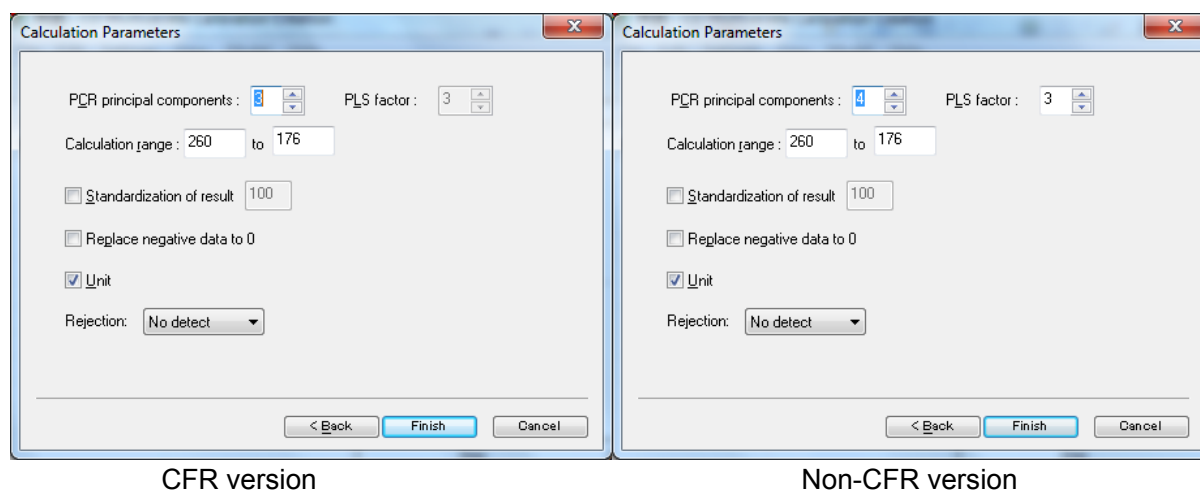

Figure 3.5 [Calculation Parameters] dialog box
- <Next> Displays the dialog box in Fig. 3.5.
Selecting [Parameters...] from the [Settings] menu allows the setting of calibration model parameters. The dialog box in Fig. 3.2 is displayed. From this point, the same dialog boxes as those when creating a new model are displayed up to the one in Fig. 3.5. Change the settings displayed as required. Note that the number of components in Fig. 3.2 cannot be changed in this case. See Section 3.1.1 for details about creating a new calibration model.